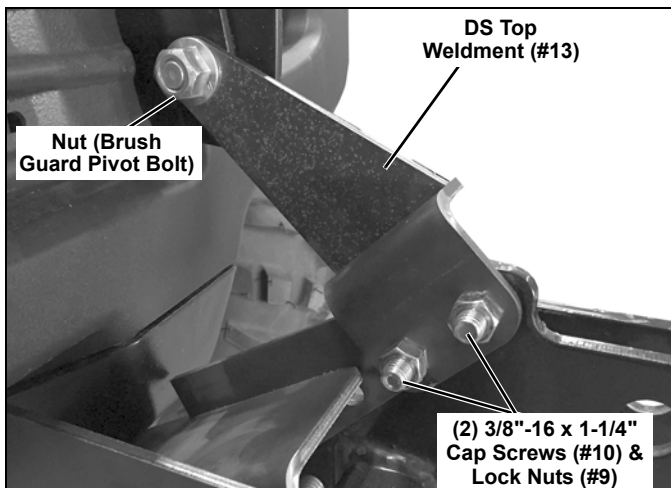

Figure 4
- On the Driver's Side, remove the nut from the brush guard pivot bolt. Slide the Driver's Side Top Weldment (#13) over the bolt and replace nut. (See Figure 4.)
- Insert (2) 3/8"-16 x 1-1/4" Hex Head Cap Screws (#10) into the Driver's Side Front Bracket (#3) and into the Driver's Side Top Weldment (#13). Secure with (2) 3/8"-16 Lock Nuts (#9). (See Figure 4.)
- Repeat Steps 10 and 11 on the Passenger's Side using the Passenger's Side Top Weldment (#14). (See Figure 4.)